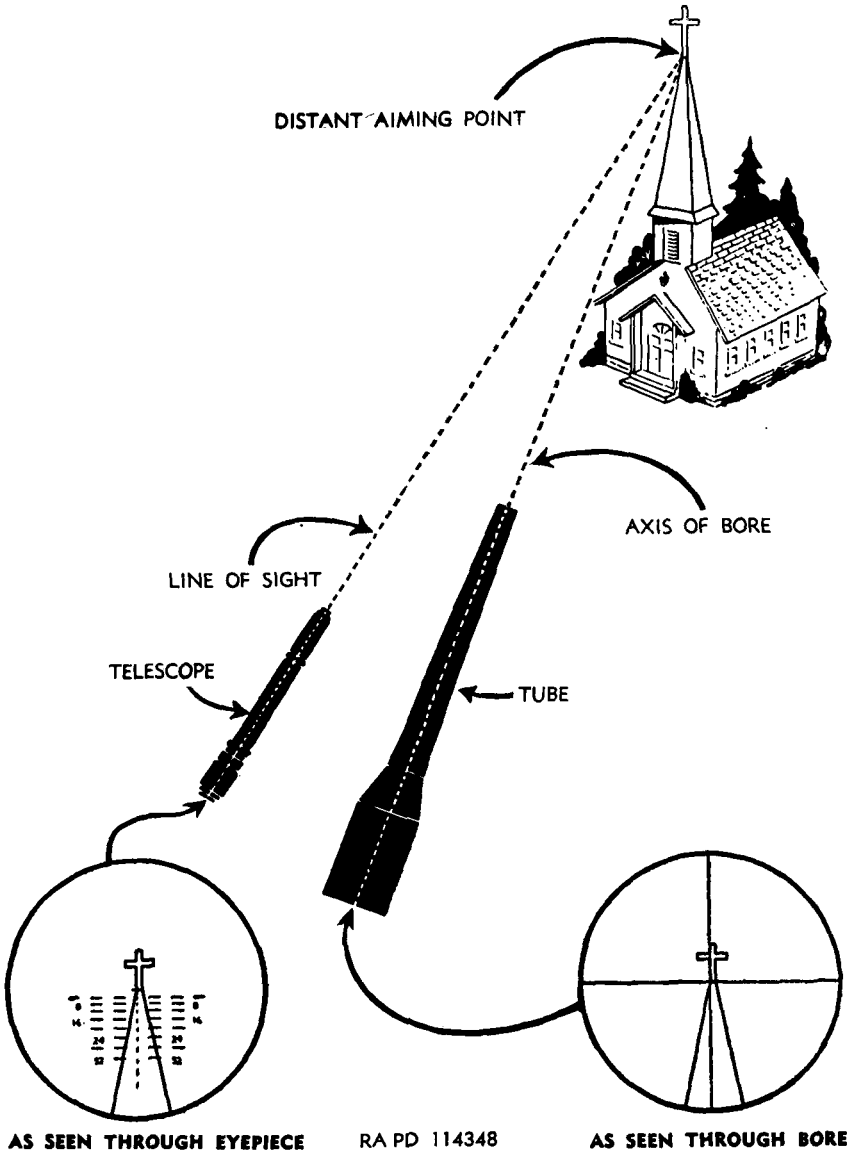

Figure 200. Gun boresighted on distant aiming point.
e. PROCEDURE. Look through the breech bore sight or peep sight and accurately align the intersection of the cross-strings of the muzzle bore sight on the distant aiming point. Look through the telescope or periscope to see if the cross of the reticle pattern falls on the aiming point (fig. 200). If it does not, shift the line of sight of the telescope